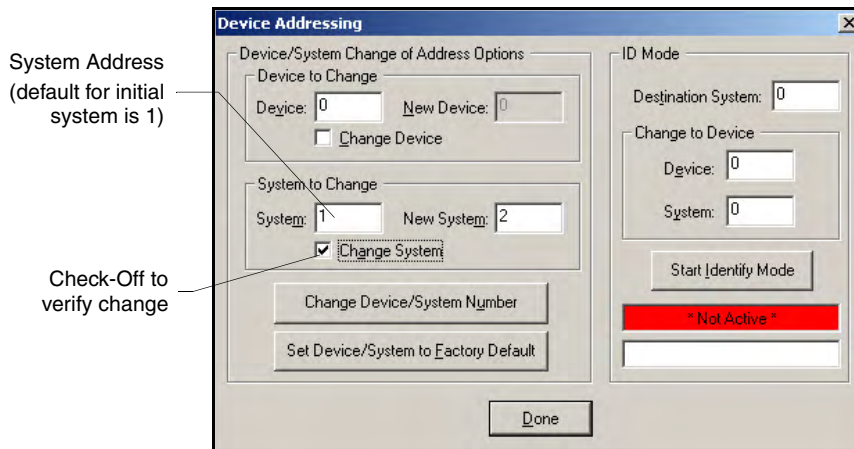

FIG. 24 Device Addressing tab (changing the system value)
1. Access/open the Device Addressing dialog box (FIG. 24) by either one of these two methods: